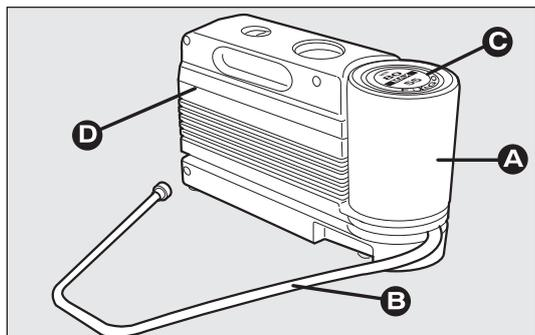

fig. 150
The kit fig. 150 includes:
- compressor D-fig. 150 including gauge and connections;